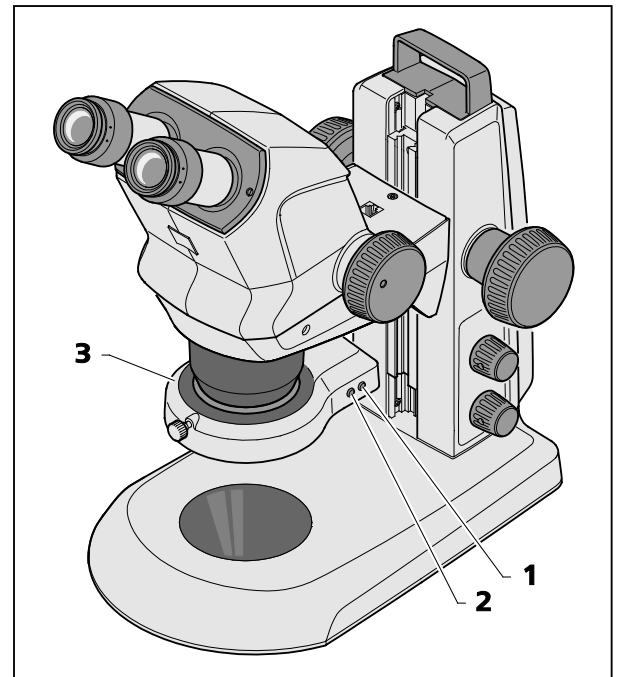

Fig. 18 Ring illuminator
- By pressing the front button (Fig. 18/2) successively, the user can change over between four illumination states of the ring illuminator (Fig. 18/3):
- By pressing the rear button once briefly (Fig. 18/1), the adjusted segment is turned forward clockwise by one quarter turn in each case.
- By pressing and keeping the rear button (Fig. 18/1) pressed for over 2 seconds, the adjusted segment is set into continuous rotation (rotation steps of 1/8 circle, 1 second per turn in each case).
- By pressing the rear button once more (Fig. 18/1), rotation is stopped and the specimen is backlit again.